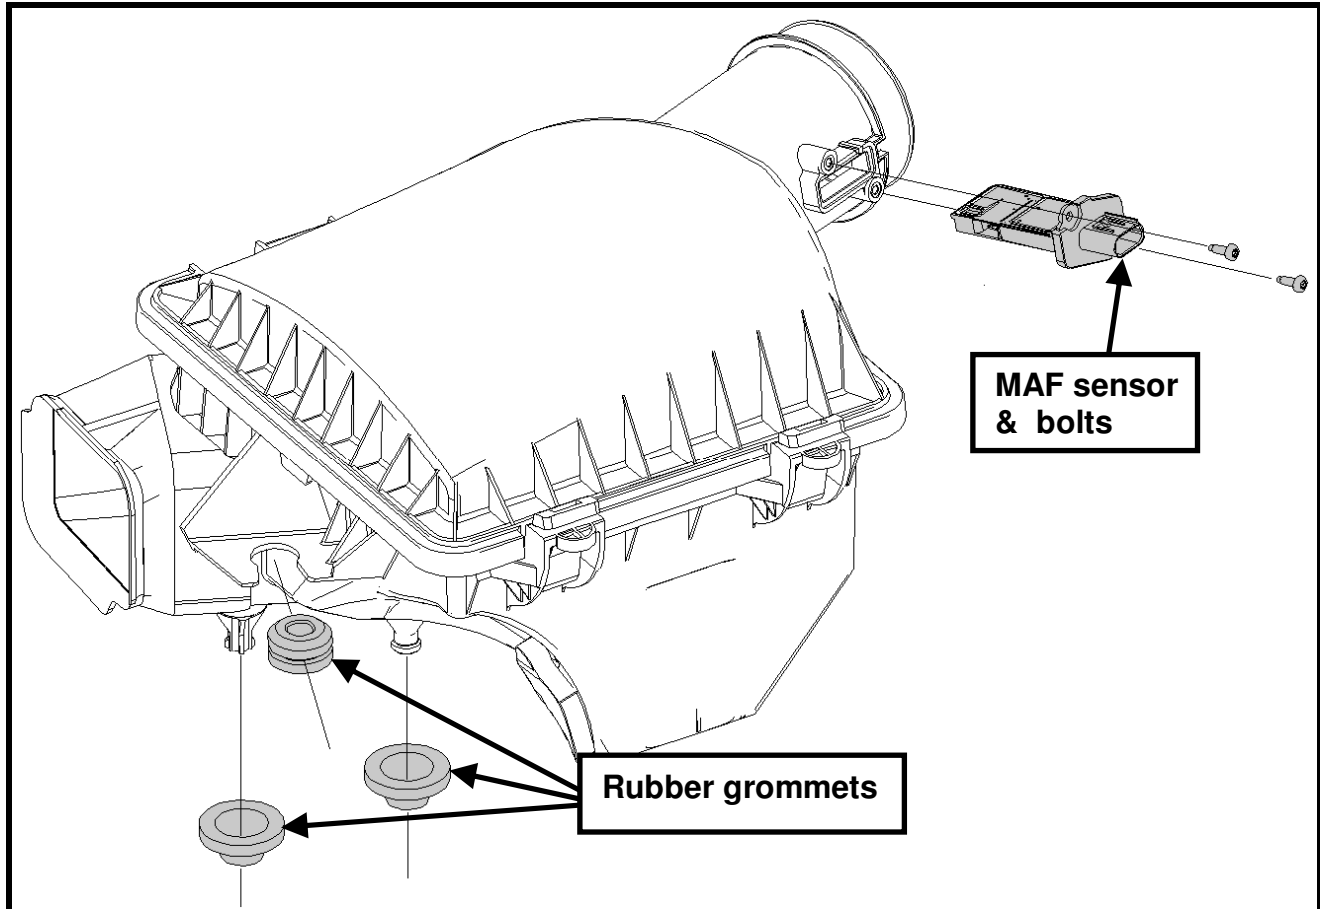

Fig. 3
STEP 5: Remove the three grommets, MAF and MAF bolts from the factory airbox (See Fig. 3). These will be reused.